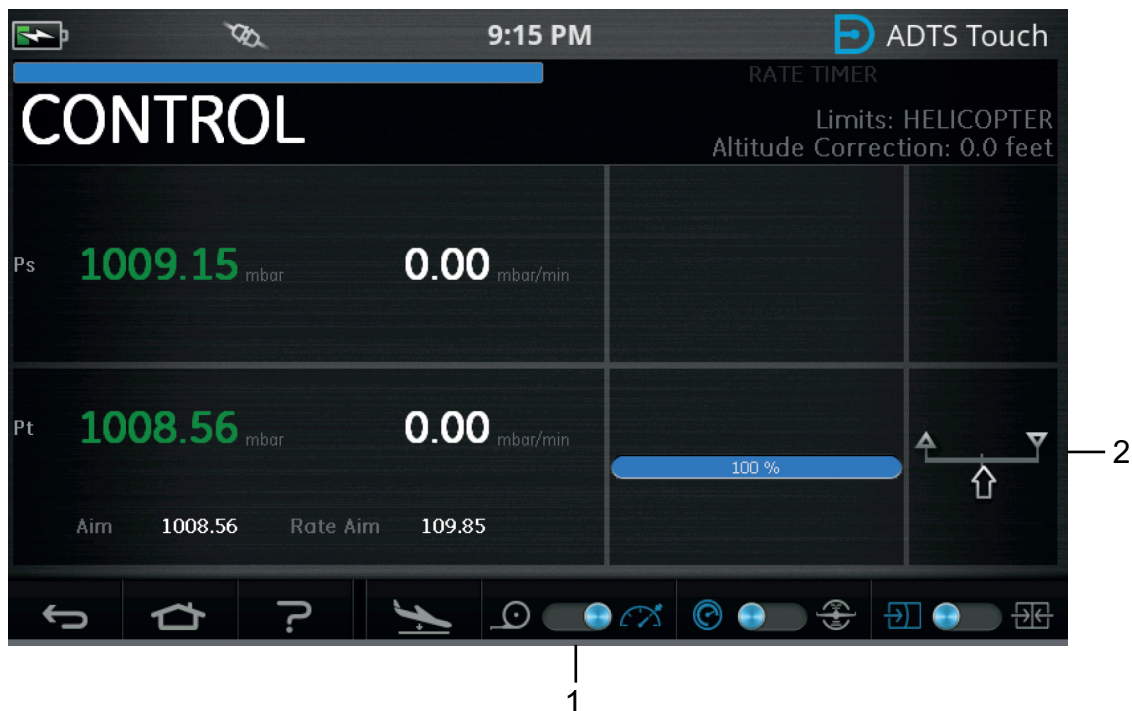

Figure 3-56: Pt Only Control Mode
Figure 3-56 shows that the Ps channel is in Measure mode and the Pt channel is in Control mode, as shown by the indication (2).